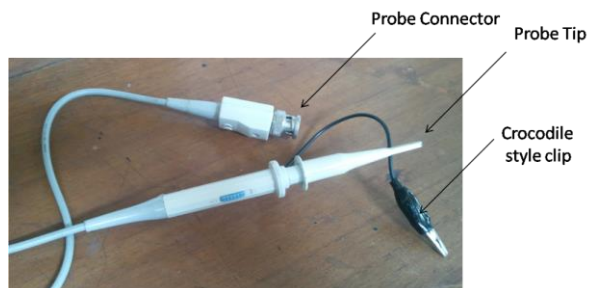

Figure 11: Oscilloscope Probe
3. Use the probe slide switch to set the probe attenuation as shown in Figure 11. (if required)